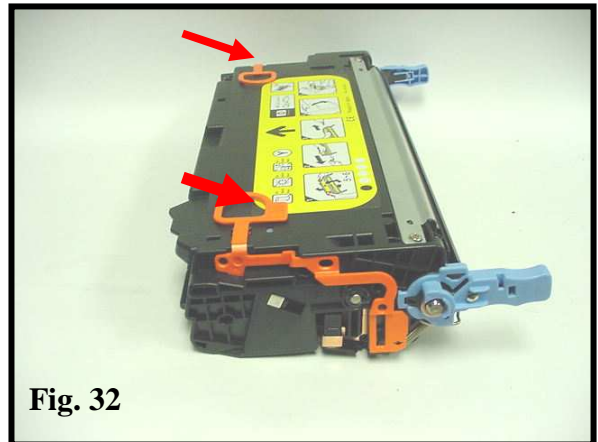

Fig. 32
32. Install shipping locks on each end of the cartridge (Fig. 32).